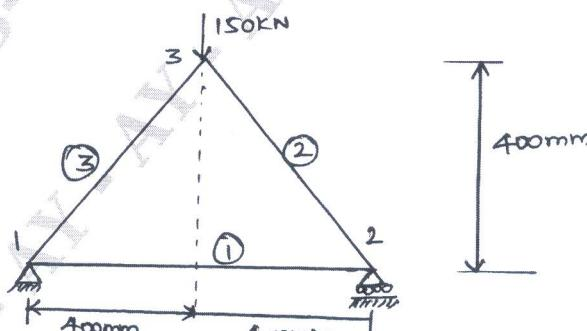

Fig. Q.3(a)
3. a. Consider the three bar truss shown in Fig.Q.3(a). Determine the nodal displacement and stress in each members. Find the support reactions. Take $E = 2 \times 10^5 \text{ MPa}$, $A_1 = 1500 \text{ mm}^2$, $A_2 = A_3 = 2000 \text{ mm}^2$. (08 Marks)